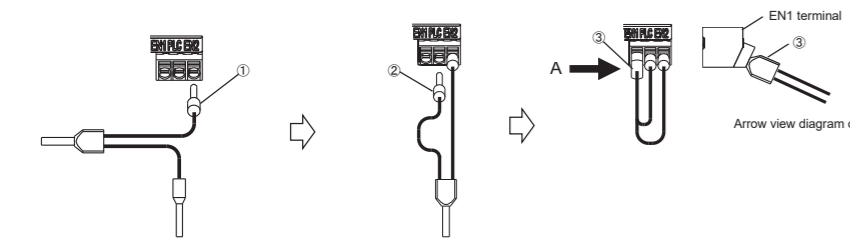

Fig.2-10 Wiring short circuit harness
- 1) Wiring terminal ① of short circuit harness to EN2 terminal.
- 2) About terminal ① and ② of short circuit harness, there are no difference.
- 3) Wiring terminal ② of short circuit harness to PLC terminal.
- 4) Wiring terminal ③ of short circuit harness to EN1 terminal.
When wiring to EN1 terminal, direction of terminal ③ should follow arrow view diagram of Fig.2-10.
① Pay attention to avoid other wiring wires being with covers or other parts.
② Following the opposite procedure to that in Fig. 2-10.